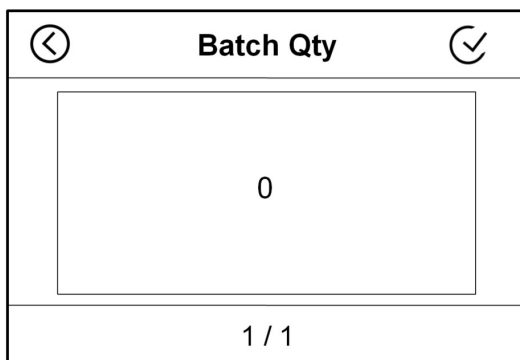

Figure 45
1) Under the main interface of the machine, press and hold the "BATCH" key on the left side of the frame for 3 seconds until the display screen jumps to the preset number shortcut setting interface, as shown in Figure 45 below.